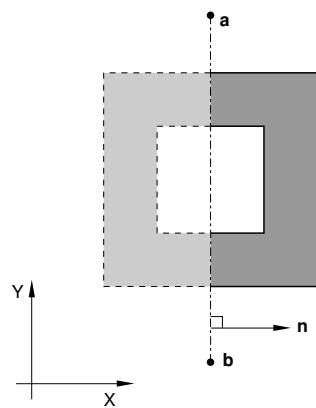

Figure 1: *REFLECTION, TYPE=LINE option.
Set TYPE=LINE to create a cavity composed of the cavity surface defined in the model and its reflection through a line. See *Figure 1*. This option can be used only for two-dimensional cases.
1. X -coordinate of point a (see *Figure 1*).